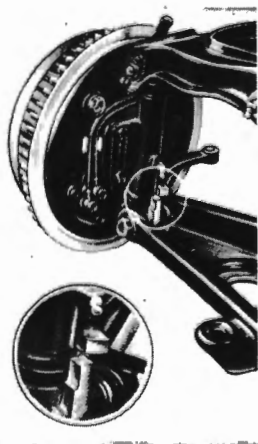

Fig. 46-1/3
- b) Only Check Screw 111 589 00 23 should be used for checking the center position of the steering assembly. If a screw with a through-thread is used, the ball guide tube (3) of the steering nut situated beside the center may be damaged (Fig. 46-1/2).
11. Fasten the steering assembly to the chassis base panel by means of the three hexagon screws. Insert the lower hexagon socket screw (clamping screw) into the steering coupling and tighten it (Fig. 46-1/1).
steering knuckle arm rests against the steering knuckle assembly stop face (Fig. 46-1/3).
The steering nut must not strike against the safety stop faces (a) in the steering housing (Fig. 46-1/3a). The sole purpose of these stop faces is to exclude all possibility of fouling or pressure of the steering nut on the bearings of the steering worm.
16. Screw the screw plug (10) into the housing cover (see Fig. 46-1/1).